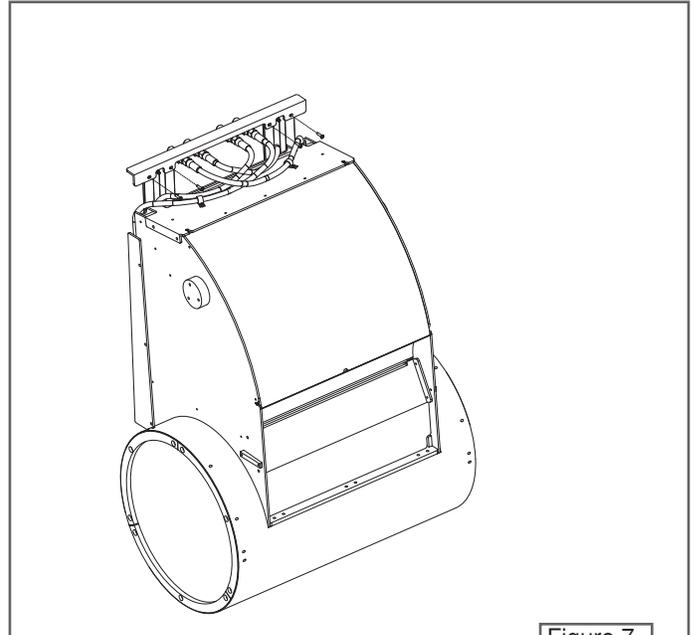

Figure 7.
7. Once the hoses are secured in place, attach the top brace to the hanging brackets using the provided 3/4" (19mm) pan head screws. **Figure 7.**